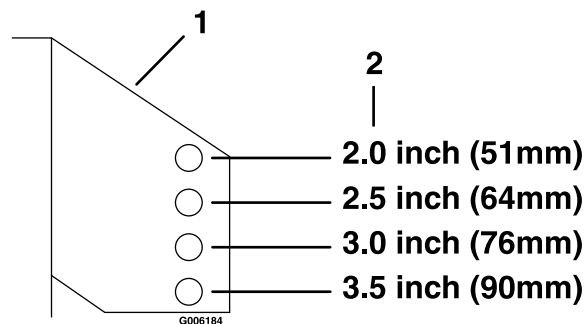

Figure 21
6. Adjust anti-scalp rollers for Normal Operating Conditions. Place rollers in one of the positions shown in Figure 21. Rollers will maintain 3/4 inches (19 mm) clearance to the ground to minimize gouging and roller wear or damage.